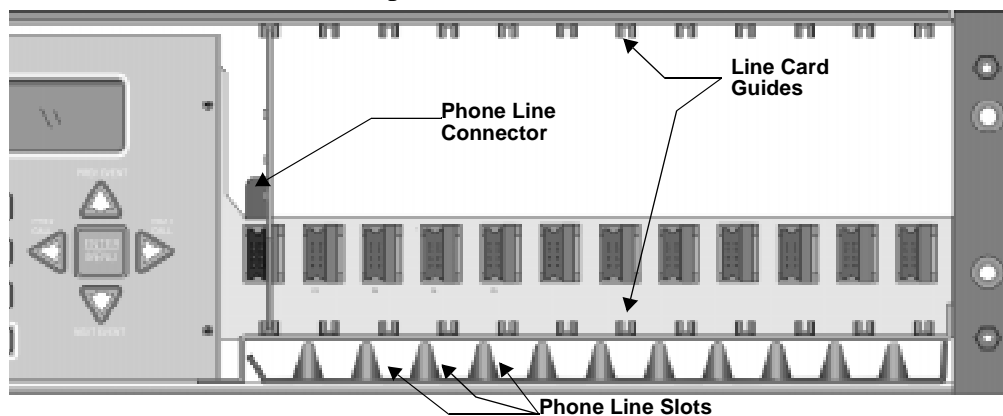
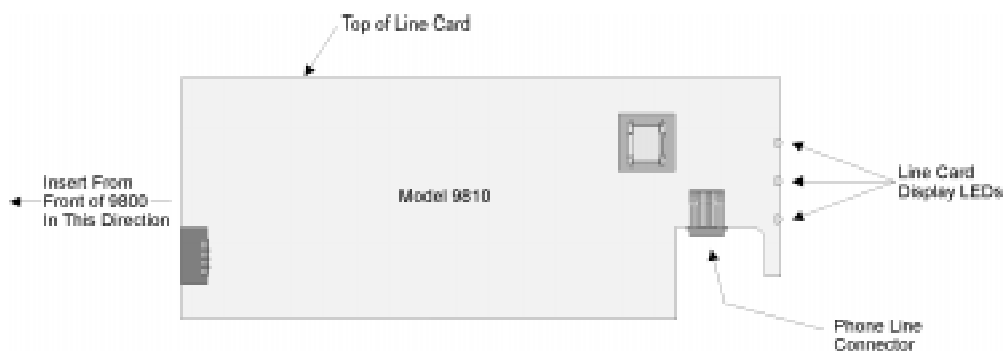

Figure 3-6 Line Card Locations
Figure 3-7 Line Card Position and Components
3. When the front panel is removed, you will see that there are 12 slots for line cards. The receiver recognizes each slot by number 1 through 12 (slot one is closest to the keypad and display). It is not necessary to put line cards in numbered order because the receiver continually polls each slot to see if existing line cards are functioning and if it is still in its slot. The receiver also looks to see if a new line card has been added. Figure 3-6 shows where each line card should be placed.
4. Position the line card as shown in Figure 3-7.
5. Unplug the telephone line. (See Figure 3-6 and Figure 3-7.)
See Figure 3-6 for the location of the phone line inputs. Connections to the 9800 phone jacks are made with a standard 7-foot phone cord (provided with each line card).
2. From the back side of the receiver insert the telephone line through the corresponding slot for the desired line card. (See Figure 3-6 and Figure 3-7 for phone line slot locations.)
4. Plug the RJ-11 phone connector into the connector on the 9810 line card. (See Figure 3-6 and Figure 3-7.)